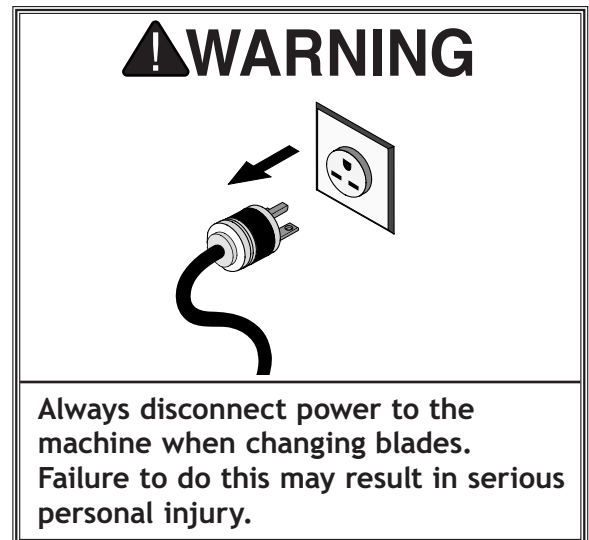

Figure 4. Tensioner adjustment.
9. Turn the tension knob until proper blade tension has been reached according to the blade thickness scale shown in **Figure 4**.